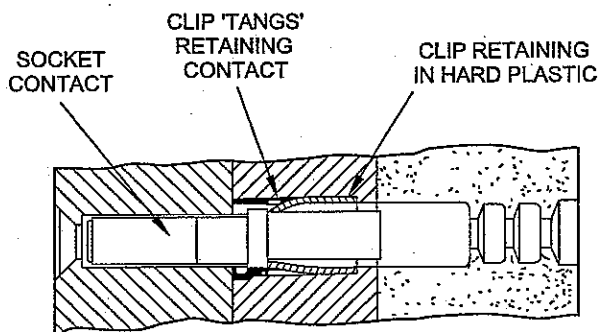

Fig 4 Contact retention
- 7.4 The contact is retained in the insert as shown in Fig 4.